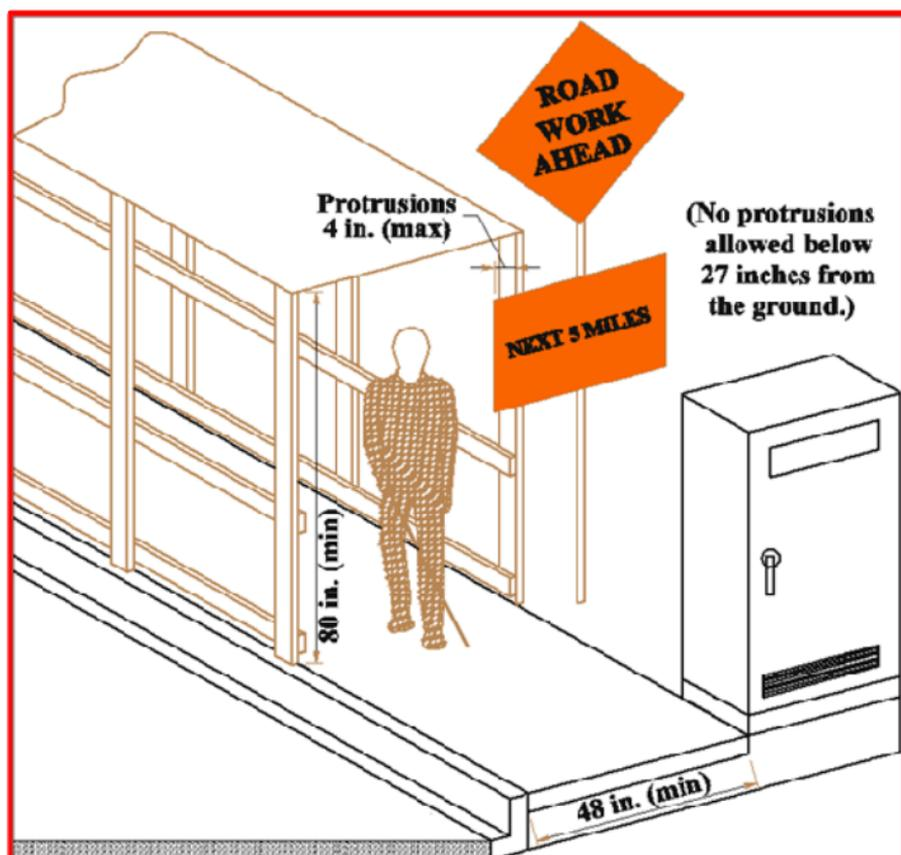

Figure 8. Protruding Objects
- Signs and other devices mounted lower than 7 feet above the temporary pedestrian pathway should not project more than 4 inches into accessible pedestrian facilities. Refer to Part 6, Section 6D.02 of the California MUTCD. (See Figure 8.)